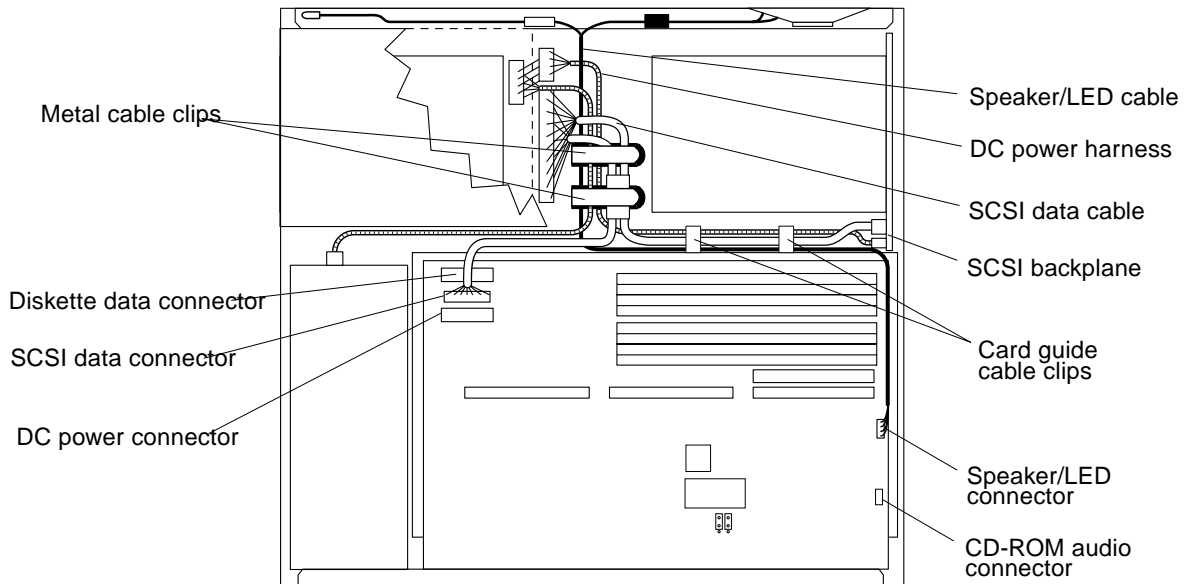

FIGURE 9-13 System Board Cable Connections
4. Unplug the DC power, SCSI data, diskette data, speaker/LED, and CD-ROM audio cables from the system board (see FIGURE 9-13).